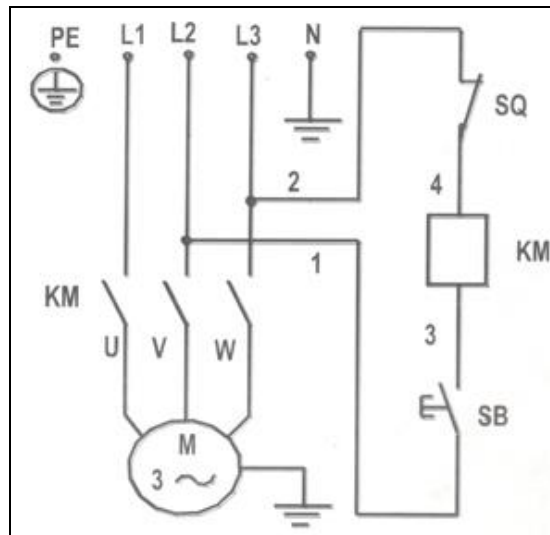

Figure 11 Electrical schematic
7.11 Mount the power unit on the main column motor board using bolts and nuts. After installing the limit switch, connect the wires according to Figure 11 "Hydraulic System Electrical Diagram". Requirements for ground power supply cables: